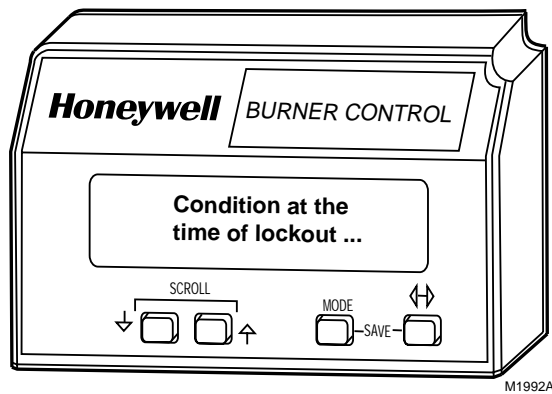

Fig. 14. Lockout message, State 2.
2. State 2 (Fig. 14). Display of the second state message lasts two seconds.